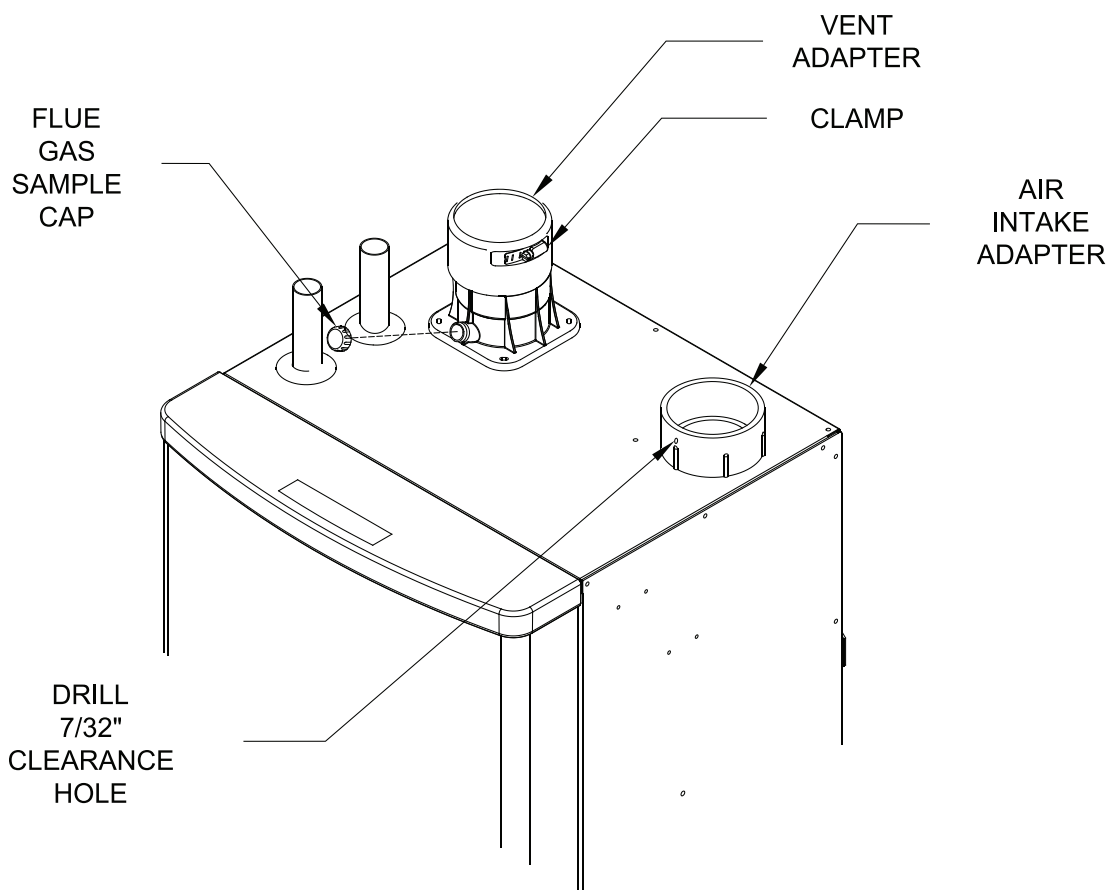

Figure 7.26: Vent Connections and Flue Gas Sample Cap Location
Never leave the boiler in operation without the gas sample cap in place (Figure 7.26).
- a. The vent adaptor has two different inside diameters. The smaller, lower, inside diameter accepts 3" nominal PolyPro (Figure 7.26). Lubricate the upper gasket in the vent adaptor with soapy water and insert the first piece of 3" PolyPro into the adaptor until it bottoms out. Tighten clamp on vent adapter to secure vent pipe.